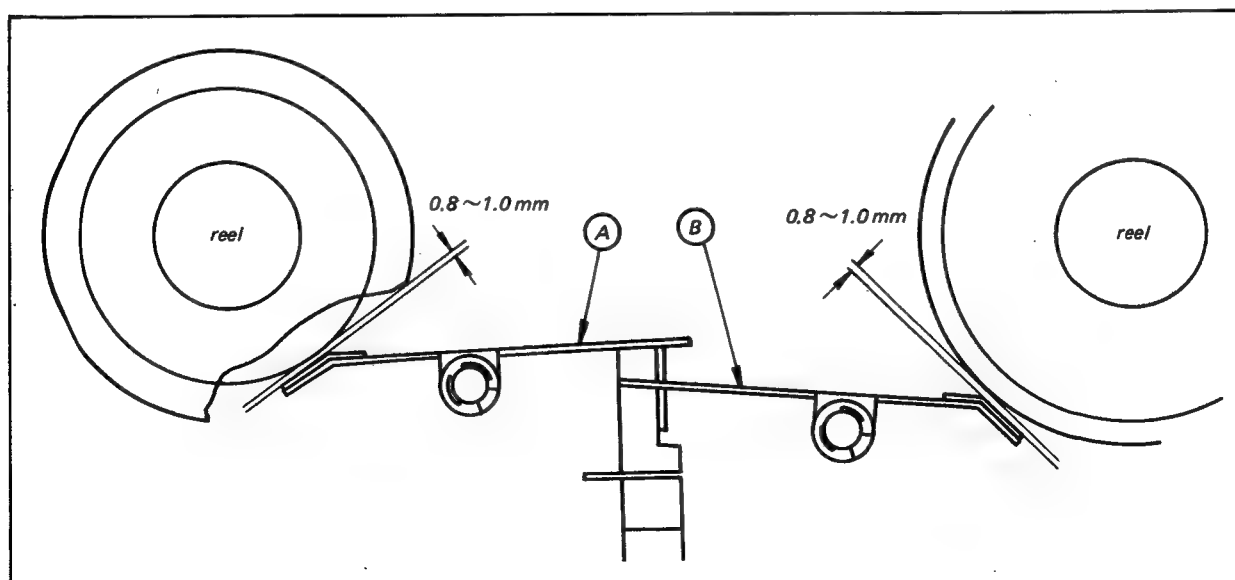

Fig. 7-16 Brake adjustment
3. Check for  $0.9 \pm 0.1$  mm clearance between the reel table and brake shoe. Bend (A) or (B) portion for correct clearance. See Fig. 7-16.